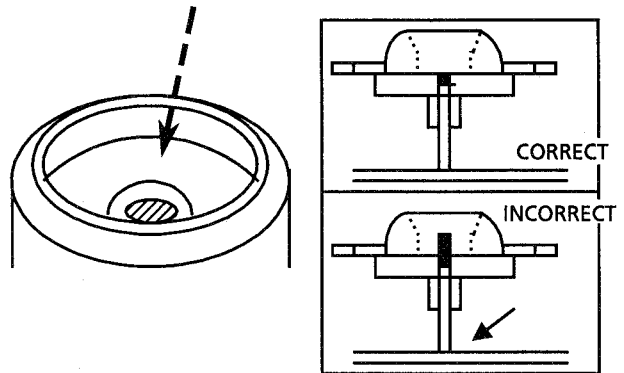

Fig 31
- (32)** Use "LOCKTITE" #460 bonding agent, and apply as little as possible. Take care not to allow any excess bonding agent to get onto the turntable. Be extremely careful not to allow bonding agent to adhere to the motor bearings (the section marked by an arrow in fig 31 on the right).